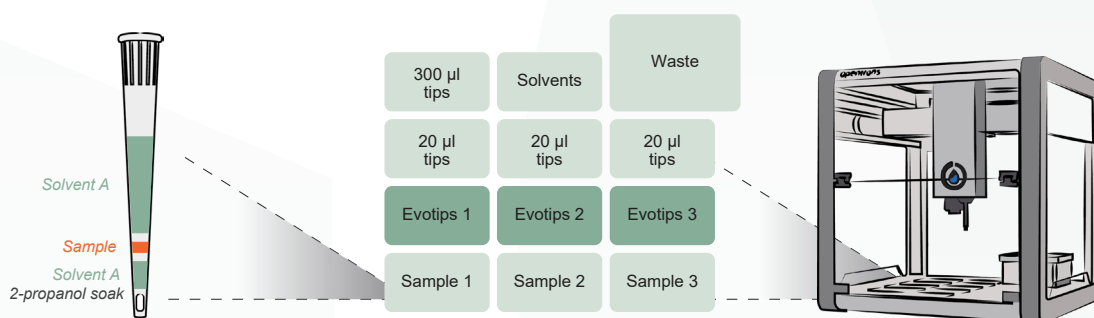

Figure 1: Layout of OT-2 deck for automation of Evtip Pure sample loading.
As a step towards end-to-end workflows, a simple and automation-friendly protocol for sample loading on Evtips has been developed. It makes use of a sandwich approach with defined air gaps between the liquid layers (Figure 1). This is then pushed through the Evtip with the OT-2 pipette for 100 seconds leaving the Evtip ready for injection on the Evosep One. The protocol has been converted into an easy-to-use HTML form, that generates a complete python script for use in the Opentrons app. It allows the user to load from 8 to 288 Evtips in a single run, requiring an Evtip Opentrons Loading kit (Evosep, EV1144) for each box of Evtips loaded at the time. Additionally, a solvent plate (USA Scientific, 1061-8150) and a sample plate (Eppendorf, 0030129512) is needed.
- 3 Prepare the remaining OT-2 deck as outlined below (Figure 1) with the Evtips placed in the appropriate adapter (Evosep, EV1144).